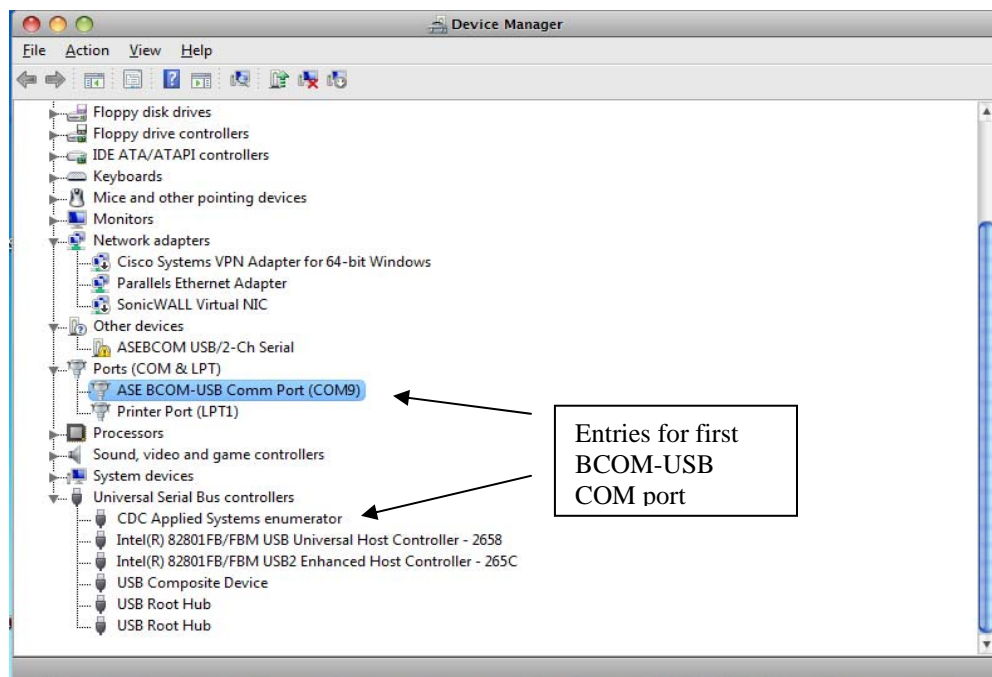
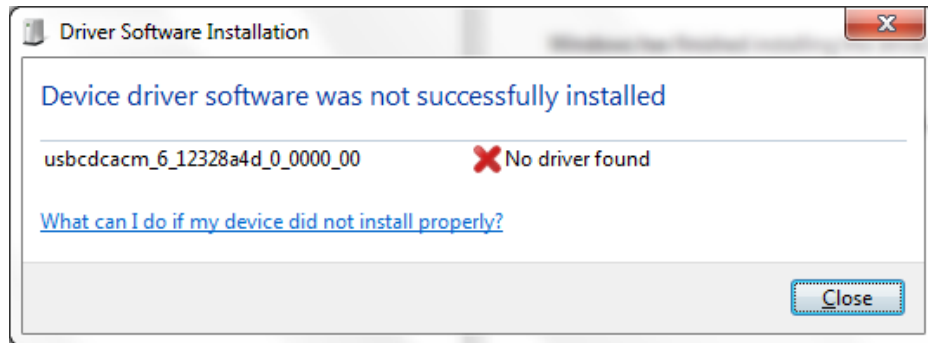

Figure 29
Figure 30
10. Upon completion of this phase, Windows will display the following screen. **Do not** select the “Close” button until the Device Manager screen updates showing the entry under Ports (COM & LPT) and entry under Universal Serial Bus controllers as shown in Figure 29 or until the screen shot shown in Figure 30 is displayed. Note: Actual COM port numbers will vary on different systems. If this screen is not displayed at this point, skip to Step 11 below for an alternative procedure.
14. Windows will proceed with the COM port installation and will display the following message when complete and the first BCOM-USB COM port will have been installed and the Device Manager screen should appear as shown in Figure 29 above.